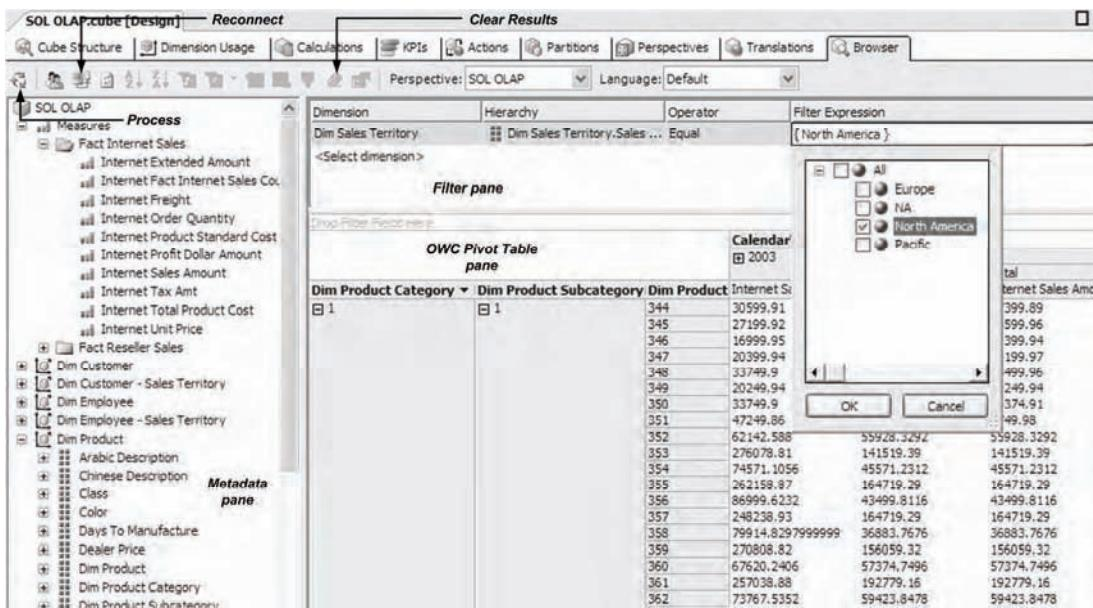

Figure 3.35 The raw SOS OLAP cube displayed in the Cube Designer.
The Browser tab (Figure 3.35) is powered by the pivot table OWC control, which is part of the Office Web Components (OWC) version 11 that we met in chapter 1. Unfortunately, the Office team has not upgraded OWC to support the new UDM features and enhancements. For example, OWC is unaware of the fact that UDM dimensions are now containers of attribute and dimension hierarchies. To get around the OWC limitations, the Analysis Services team has built a layer on top of the OWC in the form of the Metadata pane. In addition, UDM perspectives (discussed in chapter 12) can be used to provide more restricted views of the cube data.
6. Right-click on North America (Figure 3.35) and choose the *Add to Subcube area* context menu. The report is refreshed and shows data for North America Only. Experiment with various filter operators to apply different filters.